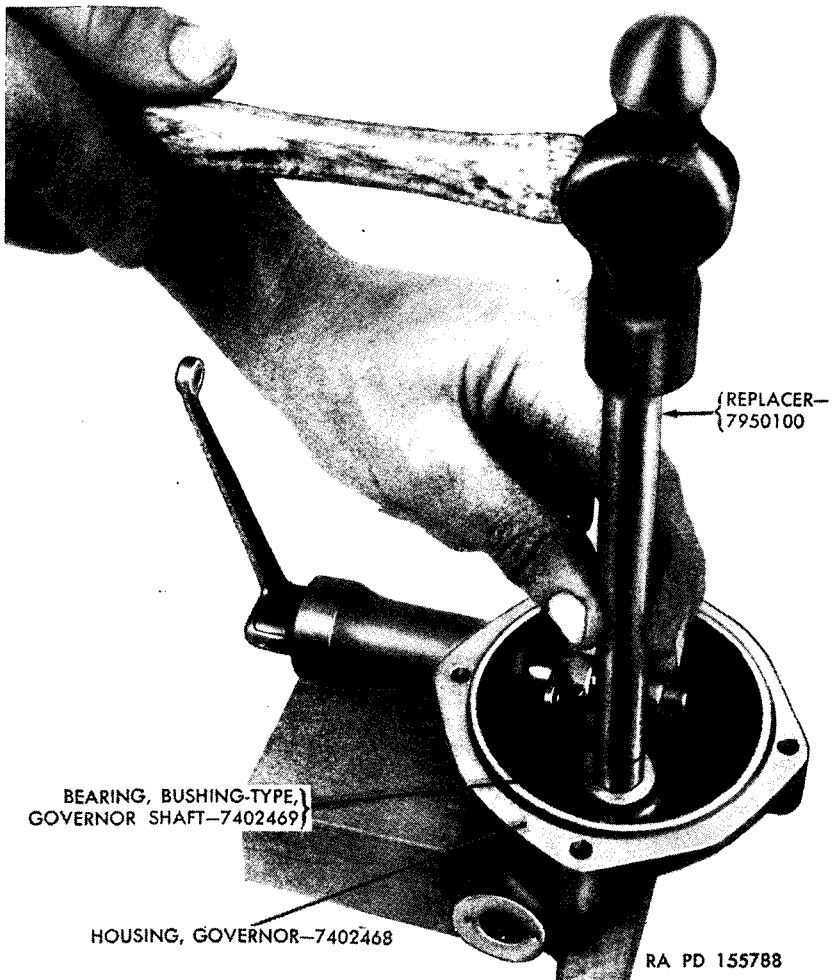

Figure 78. Installing bearing in governor housing.
a. Rest governor housing on wood block (fig. 78), start governor-shaft bushing-type bearing true in bearing bore, and drive into place with governor housing bearing replacer—7950100.